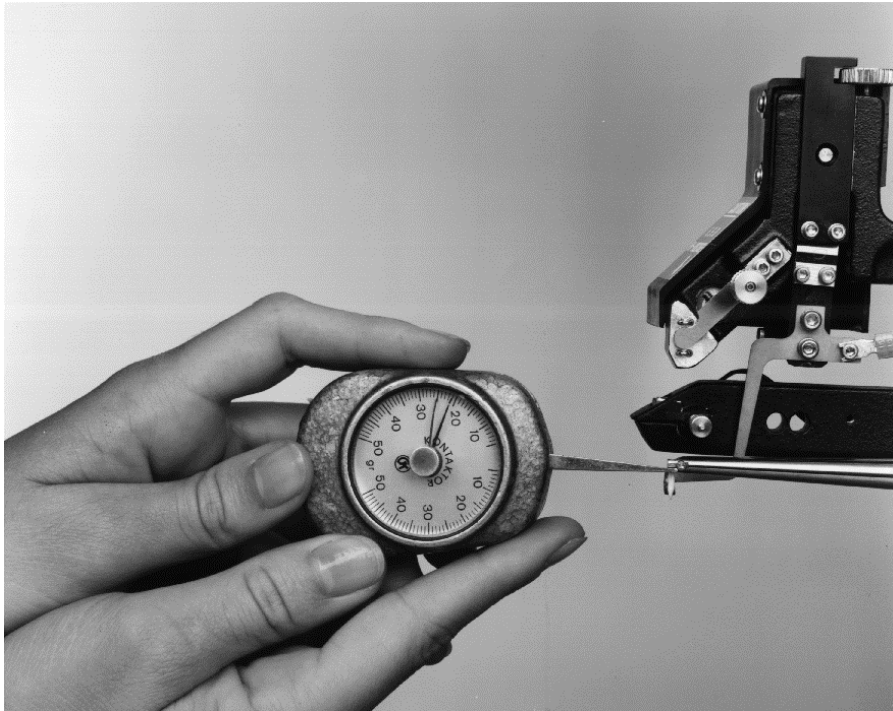

Figure 6-1: Force Adjustment Using a Gram Gauge
- 6 Using a gram gauge (see Figure 6-1), lift the bonding head until the gauge reading starts to rise.